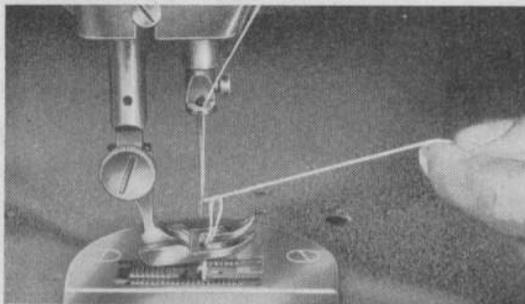

FIG. 11
b. Now draw up the upper thread and at the same time the lower thread will be pulled up through the stitch hole in the needle plate. (See fig. 11.)